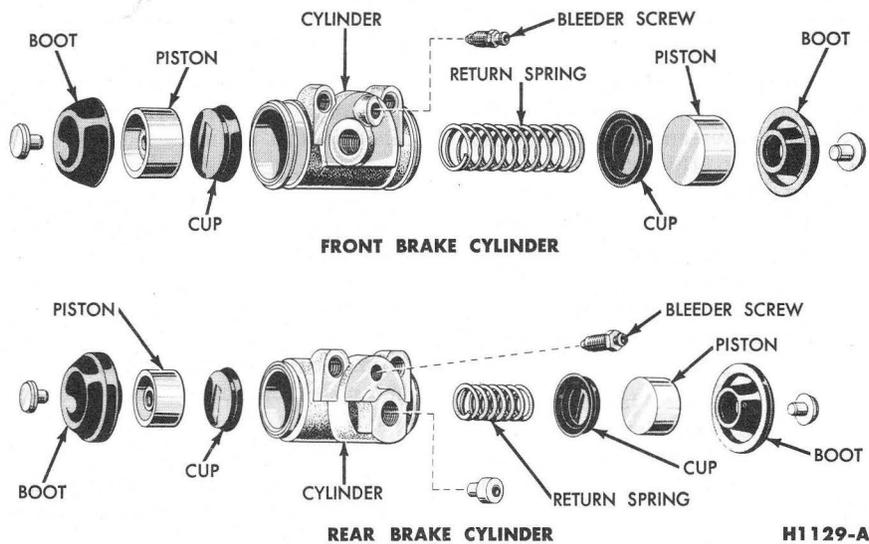

FIG. 8—Front and Rear Brake Cylinders
1. Remove the rubber boots (Fig. 8). Remove the pistons, cups, and return spring from the cylinder bore.
3. Insert the return spring, cups and pistons (Fig. 8) in their respective positions in the cylinder bore. Place a boot over each end of the cylinder.